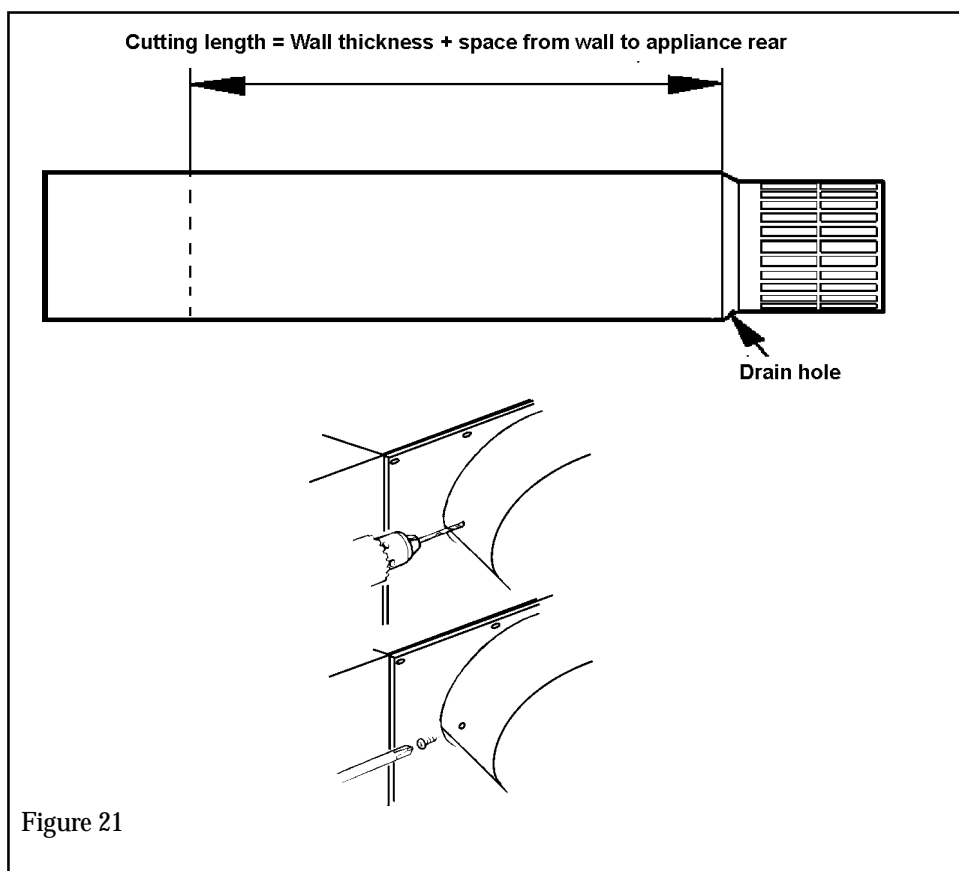

Figure 21
1. Cut the flue terminal pipe unit to size (Fig. 21).
3. Drill through the terminal outer tube and appliance outer collar for no.6 screws. See figure 21. **Make sure that the drill does not penetrate the inner tubes.**
4. Secure the terminal to the outer collar with two no.6 thread cutting screws supplied (Fig. 21).